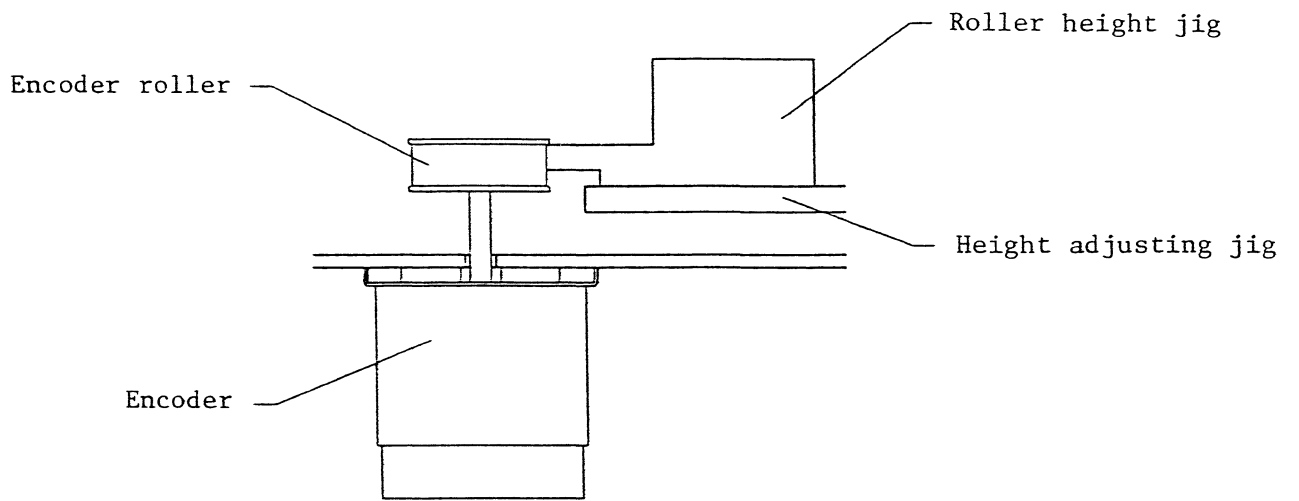

Fig.417 Height adjustment of encoder roller
- (c) Put the roller height jig on the height adjusting jig, and slide it to the encoder roller side. Move the encoder roller up and down until the inner side face of the flange touches the top face of the roller height jig (Fig. 417).